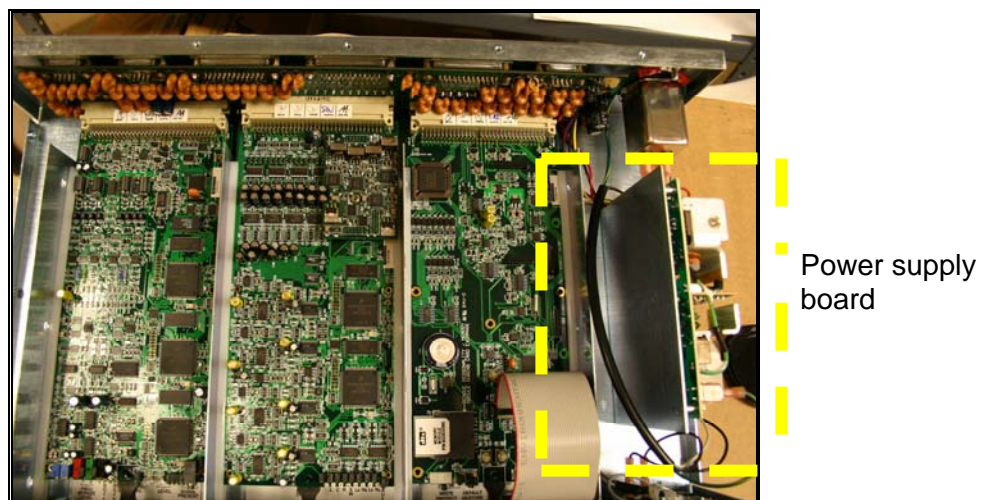

Figure 1. Locate Internal Power Supply Board
2. Remove the XD10P top cover and locate the power supply board on the right side of the unit, as shown in Figure 1, below. Be sure to save all top-cover screws.